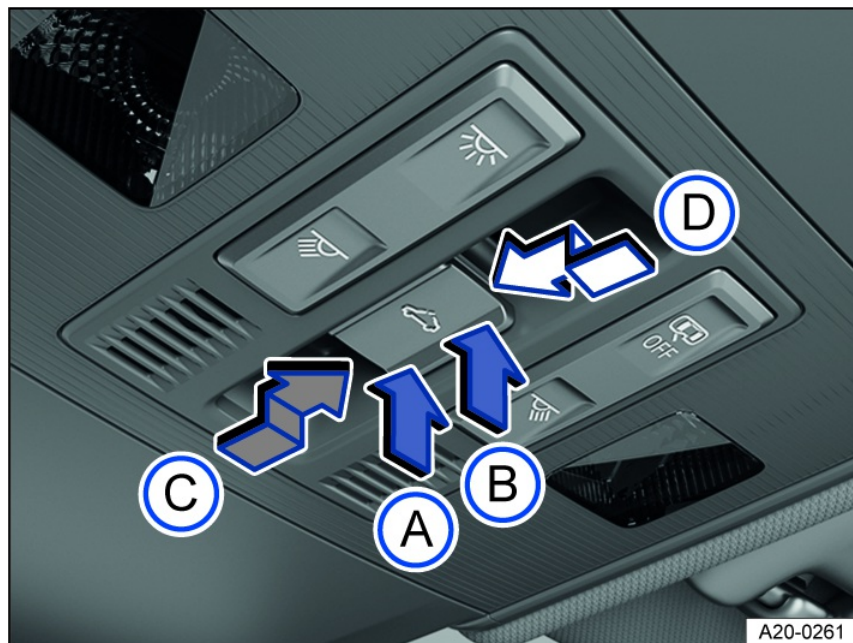

Fig. 73 In the headliner: sunroof button.
- Manual process: Press the *fig. 73* **B** button to the first level.
- Automatic process: Press the *fig. 73* **B** button to the second level.
- Manual process: Press the *fig. 73* **A** button to the first level.
- Automatic process: Press the *fig. 73* **A** button to the second level.
- Manual process: Press the *fig. 73* **C** button to the first level.
- Automatic process up to comfort position: press the *fig. 73* button until the second level is reached.
- Manual process: press the *fig. 73* button until the first level is reached.
- Automatic process: press the *fig. 73* button until the second level is reached.
1. Press the *fig. 73* or *fig. 73* button again.